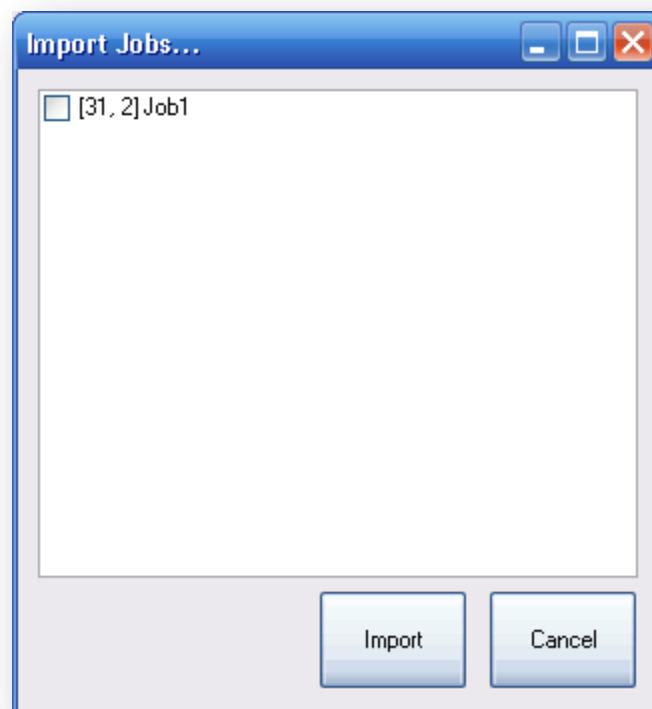

Figure 11-7 - Import Jobs dialog
2. A list of jobs that don't exist in the current BiG will be shown (see FIGURE 11-7). Check the ones you wish to import.